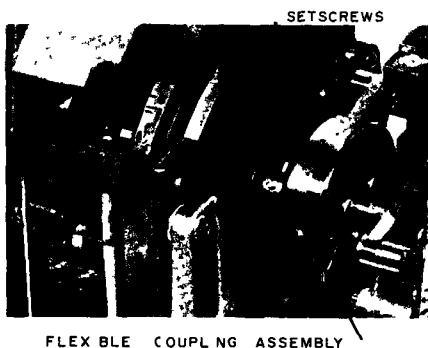

FIGURE 24 - Disengaging Gain Control Mechanism
1. Release gain control mechanism from Controller by loosening set screws holding flexible coupling assembly to Controller gain arm shaft. See Figure 24